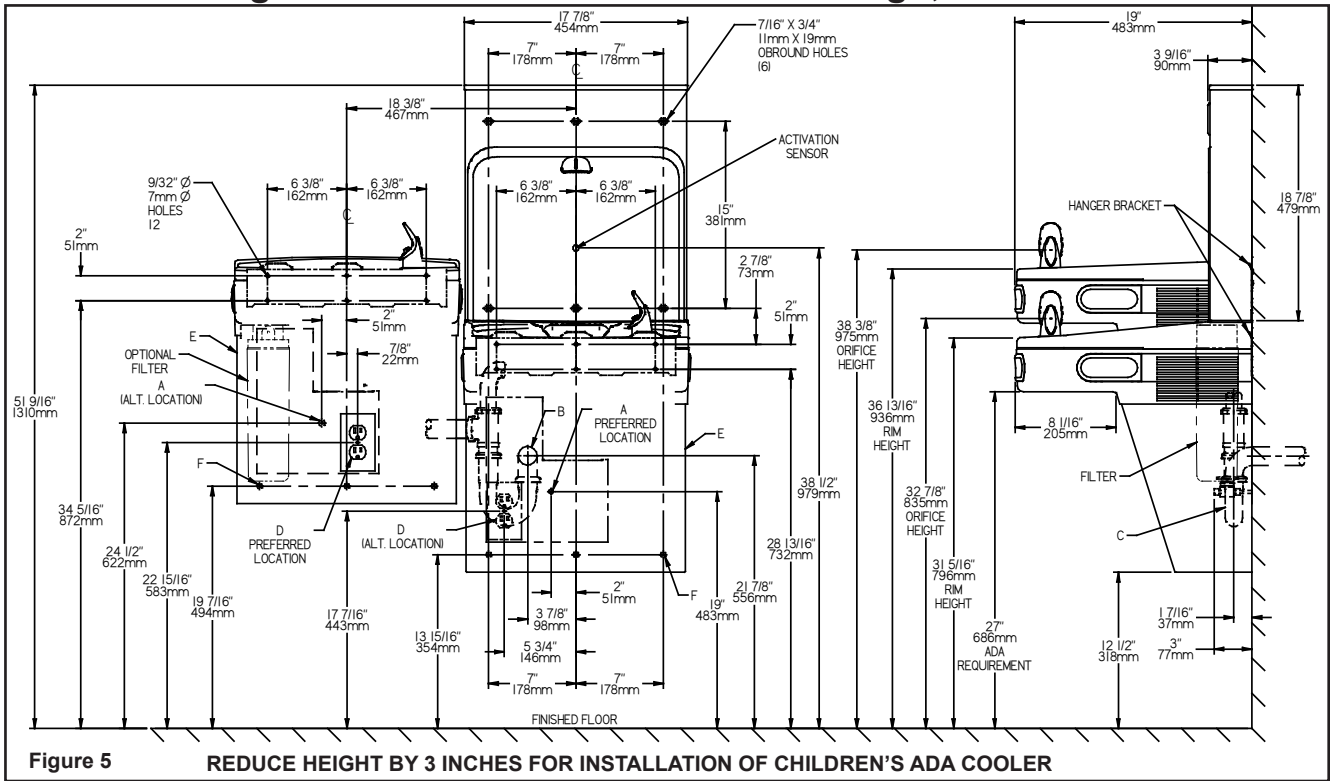

Figure 5 REDUCE HEIGHT BY 3 INCHES FOR INSTALLATION OF CHILDREN'S ADA COOLER
1. Remove Hanger Bracket (Item 1) fastened to back of cooler by removing one (1) screw.
2. Mount Hanger Bracket as shown in Figure 5, 6, 7, or 8.
- NOTE: Hanger Bracket MUST be supported securely. Add fixture support carrier if wall will not provide adequate support. Anchor hanger securely to wall using all six (6) 1/4" (6.4mm) diameter mounting holes.
3. Hang Cooler on the Hanger Bracket. Be certain the Hanger Bracket is engaged properly in the slots on the cooler back as shown in Figure 5, 6, 7, or 8.
4. Remove the four (4) screws holding the lower front panel at the bottom of cooler. Remove the front panel by pulling straight down and set aside.
2. Remove wall mounting plate from bottle filler. Place wall plate against wall on top of basin. Center the wall plate side to side with the basin. Mark the six (6) mounting holes with a pencil. See Figure 5, 6, 7, or 8.